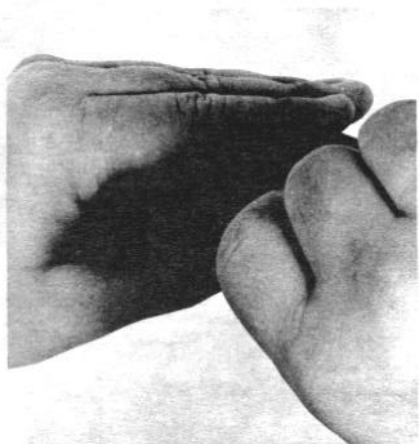

Figure 22. Removing the base of the magazine.
a. Use a pointed object to raise the rear of the magazine base (fig. 22) until the indentation on the base is clear of the magazine. Grasp the magazine with either hand, with one finger of the hand covering the base. Remove the base and guide the spring, one coil at a time, to clear the retaining lips of the magazine.